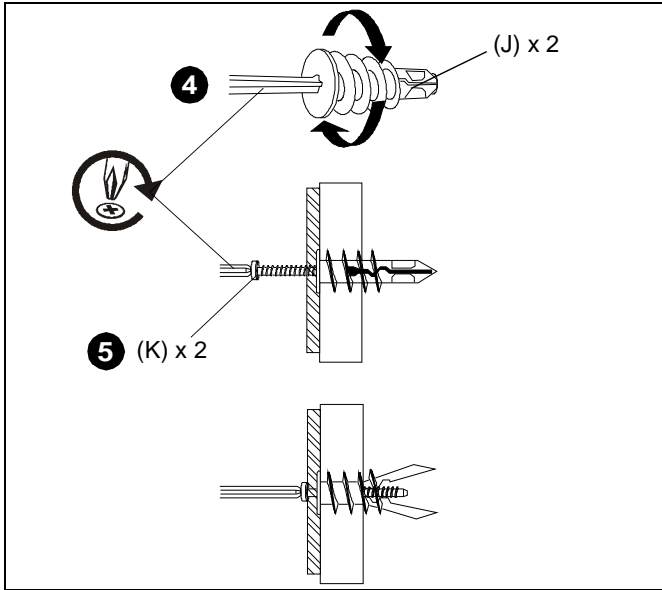
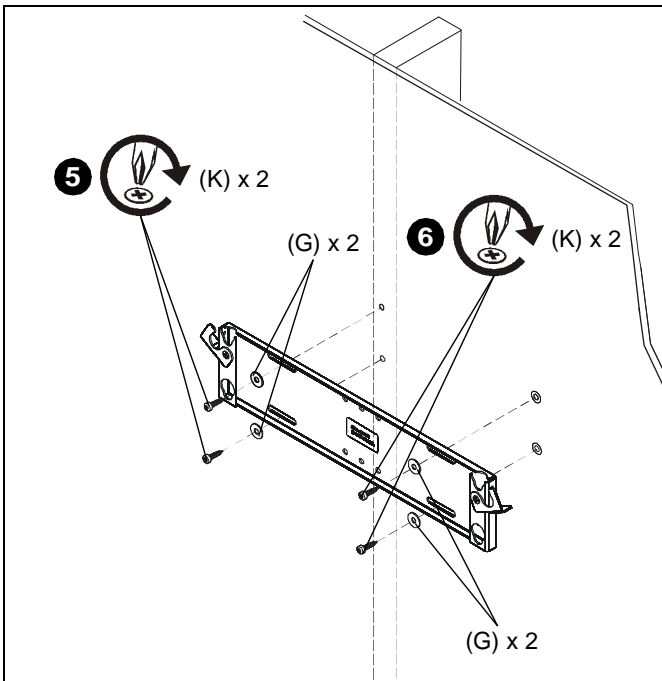

Figure 8
Figure 9
- Using a Phillips screwdriver, install drywall anchors (J) into wall at marked locations not on the wood stud. (See Figure 8)
- Secure speaker bracket (A) to anchors in wall using two #10 x 1-1/2" Phillips head screws (K) and two #10 washers (G). (See Figure 8) and (See Figure 9)
- Secure speaker bracket (A) to wall using two #10 x 1-1/2" Phillips head screws (K) and two #10 washers (G). (See Figure 9)